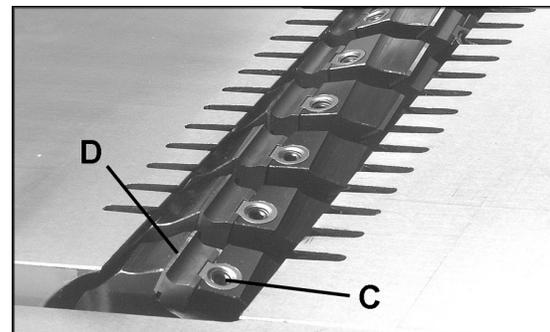

Figure 13
1. Loosen the gib screw (C, Figure 13) and remove the knife (D, Figure 13) from the slot.
2. Flip the knife 180 degrees and re-insert it, then tighten the gib screw (C, Figure 13). To ensure optimal cutting, all knives in the cutterhead should be flipped at the same time.